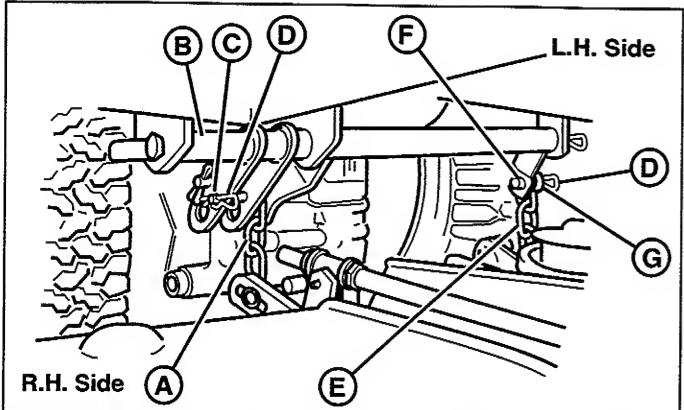

Figure 17. Mower Lift - Hydraulic Lift Models & 44"
4. See Figure 17. Connect the mower lift chains (A & E) to the tractor lift arm (B) using the clevis pins, washers and safety clips. Install the shorter clevis pin (F) on the left side as shown.